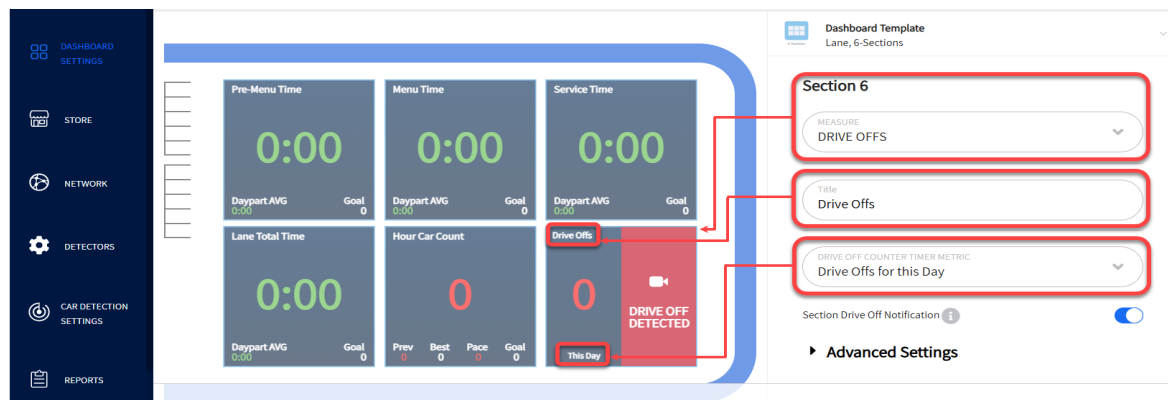
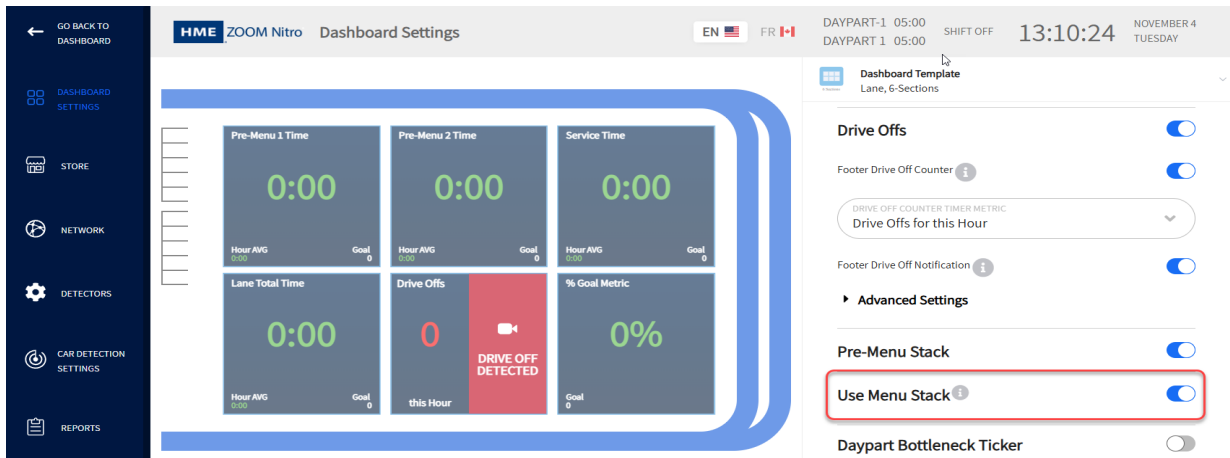
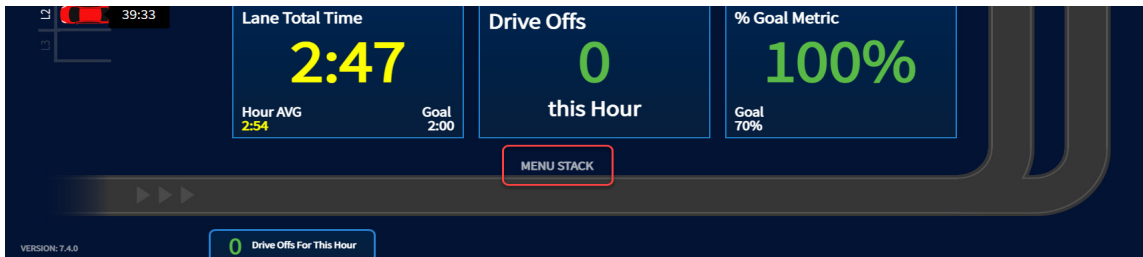

Fig. 3.9
Fig. 3.13
Fig. 3.14
The above information can also be displayed in a Data Section. Click on a Data Section (Section 6 is the example used in Fig. 3.9). From the drop-down list of the **MEASURE** field, select DRIVE OFFS. Label this Data Section in the Title field (“Drive Offs” is used in this example), and then select the time period from the DRIVE OFF COUNTER TIMER METRIC field (“This Day” is used in this example). See Fig. 3.9.
When Use Menu Stack is enabled (Fig. 3.13), it combines Pre-Menu Stack and Pre-Menu into a single label called **Menu Stack** (see Fig. 3.14). This toggle is tied to the Pre-Menu Stack toggle above it, so if you disable Pre-Menu Stack, the Menu Stack (if enabled) is also disabled, and if you enable Use Menu Stack, it will also enable the Pre-Menu Stack (if disabled).
<div>DAYPART/SHIFT OPTION</div> <div>Show DP with Time</div>	DAYPART/SHIFT OPTION: Different combinations of Daypart (DP), Shift, and Time can be selected here to be displayed at the top of your Dashboard screen (see Fig. 3.13).
<p>MEASURE - drop-down list:</p> <p>Time: This is the elapsed time for an event happening, such as a vehicle being detected at a detection point or the Lane Total for a Lane.</p> <p>% Goal: Shows the percentage of vehicles over/under the goal at the selected Event.</p> <p>Car Count: The total number of vehicles that have gone through the drive-thru lane and departed from the last detection point.</p> <p>If your store uses a Dual Lane layout, CAR COUNT will also offer you LANE SELECTION options. You can choose a car count for either lane or a combined count for both lanes.</p> <p>Cars in Lane: This is the total number of vehicles in the lane that have arrived at or passed the first detection point but have not yet departed the last detection point of the lane.</p> <p>If your store uses a Dual Lane layout, CARS IN LANE will also offer you LANE SELECTION options. You can choose cars in lane for either lane or a combined count for both lanes.</p> <p>Disastrous Orders: This is the number of vehicles or orders that have exceeded the user-determined Disastrous Orders Goal. For example, if speed goal D has the longest time value of goals A, B, C, and D (where A = 30, B = 60, C = 90, D = 120), then any vehicle or order exceeding 120 is considered a Disastrous Order.</p> <p>Drive Offs (if applicable): These are vehicles in the Pre-Menu Stack/Pre-Menu zone which drive off before ordering. See details on page 14, Fig. 3.9 and 3.10. This option is only available when using Nitro Vision AI.</p> <p>Average Time: The sum of the amount of time, for each vehicle departure within the user-selected periods, divided by the number of vehicle departures.</p> <p>Drive Thru-Put: Calculates the number of cars each hour the drive-thru can serve based on the slowest detection point average and the time remaining in the hour.</p> <p>Period Bottleneck: This shows the bottleneck event for the set time period (Half Hour, Hour, Daypart, Day).</p> <p>Current Bottleneck: This tells you what event/detection point is causing the current bottleneck. Based on the set number of vehicles in the Rolling Avg. settings.</p> <p>Leaderboard Ranking: This shows your store's ranking based on the number of stores it is monitored against. For example, a "1 of 5" ranking means you are currently in first place out of five stores monitored.</p> <p>Leaderboard List: This shows a list of all the stores monitored beginning with the top ranked store. In the Leaderboard Ranking example (1 of 5), your store will be the first line on the displayed list (see Fig. 3.21).</p> <p>Lead Car Order Summary: This gives you an overview of the order for the lead vehicle in your drive-thru lane. (Only visible when POS is enabled.)</p> <p>Menu Stack Car Count: This is the total number of vehicles in the combined Pre-Menu and Pre-Menu stack (Menu Stack must be enabled on the dashboard to receive an accurate count, see Fig. 3.13).</p>